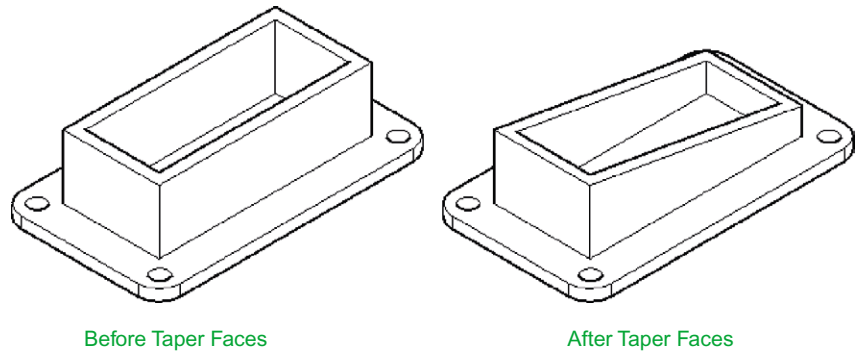

Fig. 18.8 Fifth example – Taper faces tool
### Fifth example – Taper faces tool (Fig. 18.8)
1. Construct the 3D model as in the left-hand drawing of Fig. 18.8. Place in **ViewCube/Isometric** view.
And the selected face tapers as indicated in the right-hand drawing of Fig. 18.8.